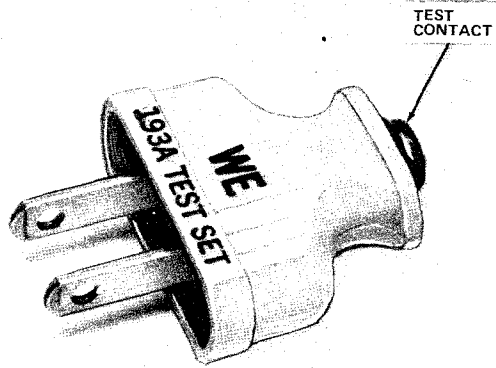

Fig. 1—Test Set
2.01 The 193A test set (Fig. 1) consists of an ac plug which contains a current limiting voltage divider circuit and a test contact.